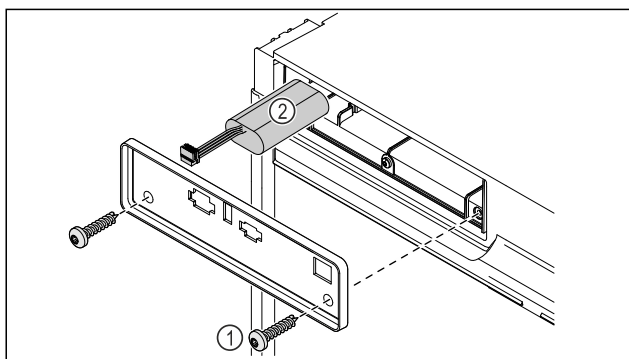

Fig. 197
- Unscrew the screws and remove the cover on the back of the appliance Fig. 197 (1).
- Disconnect and remove the battery Fig. 197 (2).